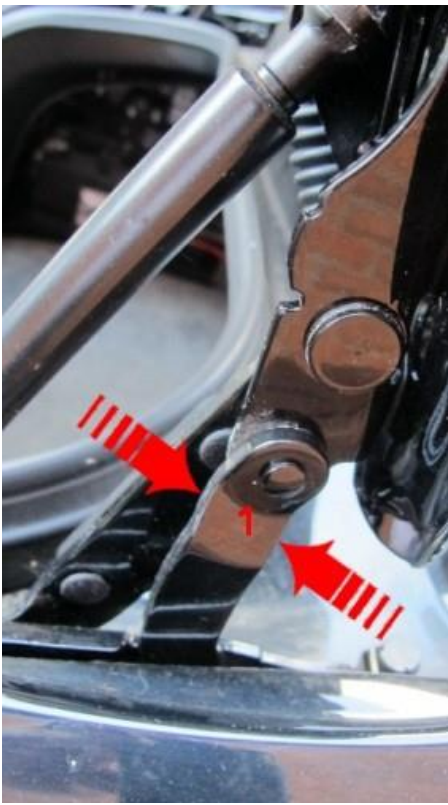

Figure 1
Prior to continuing with this document, ensure the right hand hinge (motor driven hinge – item 1) is serviceable, manipulate the open hinge whilst checking for excessive play. Ensure the hinge function is uncompromised and no misalignment exists in the hinge elements, replace the driven hinge where necessary - *Figure 1*.